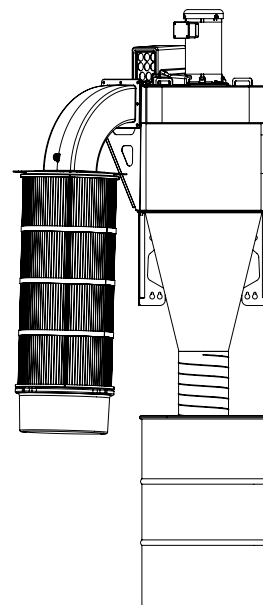

FIG. 3b
- **Wall Bracket Instruction Sheet #ZBI300021A** [FIG 3b]
- **Wall Bracket Instruction Template #ZBT300021** [FIG 3b]